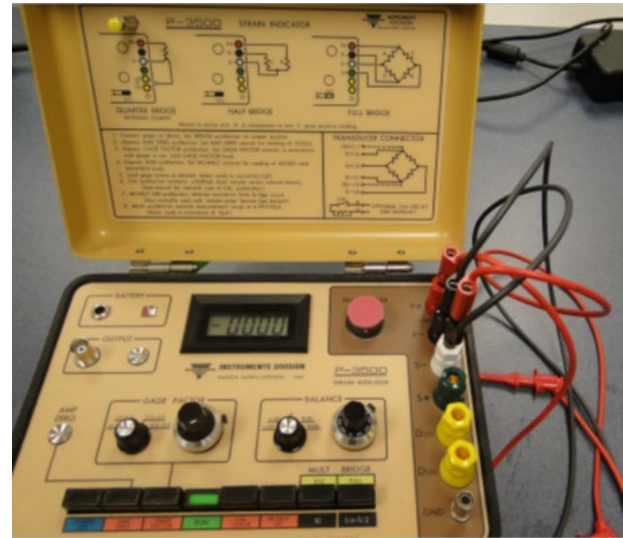

Figure 6. Wheatstone bridge configuration on the Vishay P-3500 strain indicator for the bending test
- (e) Turn the right balance knob on the readout box to balance the bridge as close to zero as possible. Use the left knob to switch to different level if needed (Fig. 6).